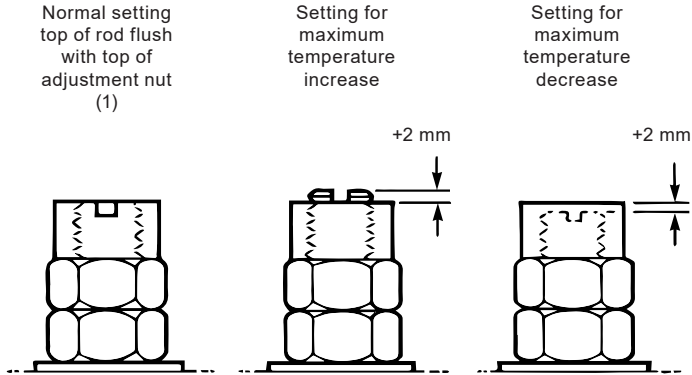

Fig. 9
After the Type 58 Control Valve has been put into service and allowed to settle down, if it is found that it is controlling at a slightly different temperature to that required, it may be adjusted over a small range as follows: Using a 16 mm A/F spanner hold the adjustment nut (1) and slacken the lock nut (2). Now using a screwdriver in the slot provided to prevent the rod turning, the adjustment nut (1) and lock nut (2) may be repositioned up to a maximum of  $\pm 2$  mm as shown on Figure 9.